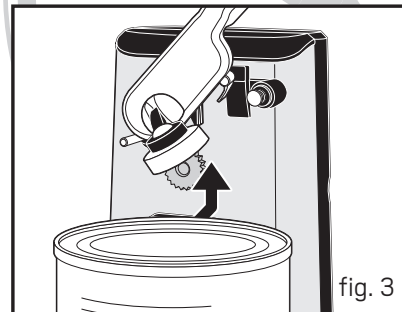

fig. 3
5. Place rim of can firmly under magnetic lid holder and against geared wheel making sure the blade is inside the rim of the can. See fig. 3.